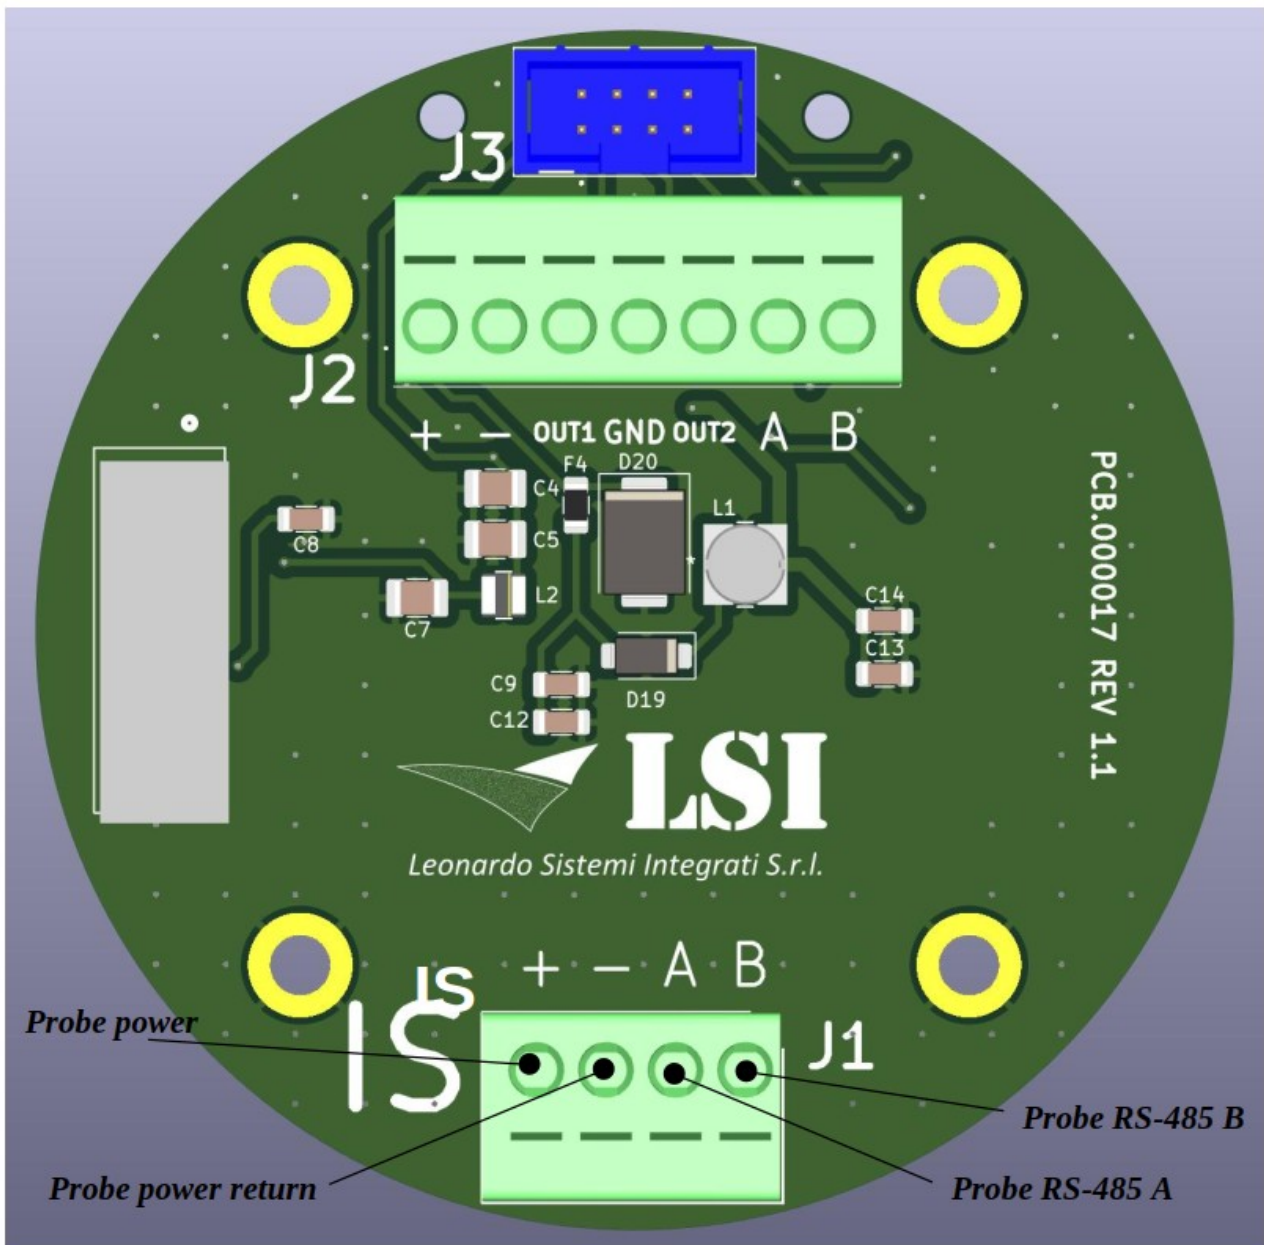

Figure 5 - Level probe connection (J1 – IS connector)
- Connect the wiring of probe to the relative spring terminals block, respecting the information on the PCB silk-screen (see Figure 5).
- PROBES (up to 5): to display levels from probes connected to J1 on External I/F board – see Figure 5 and see paragraph 6.3.1 for parameters setting;